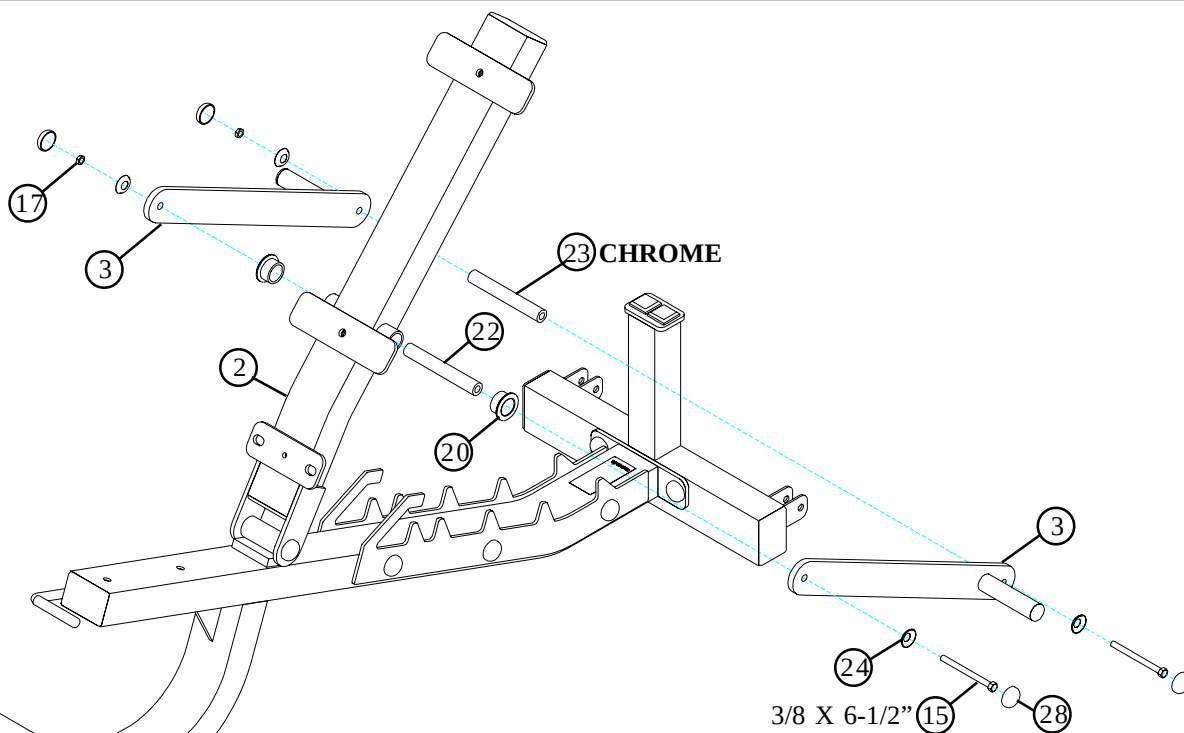

FIGURE 4
- **SECURELY** assemble two BACK PAD ADJUSTS (3) to the BACK PAD SUPPORT (2) using two RH CAPS (28), one 3/8 X 6-1/2" BOLT (15), one 3/4 X 5-5/16" PIVOT SHAFT (22), two 3/4" FLANGE BEARINGS (20), two 3/8" RH WASHERS (24) and one 3/8" LOW HEIGHT LOCK NUT (17) as shown in FIGURE 4.
- **SECURELY** assemble one 3/4" X 5-5/16" **CHROME** PIVOT SHAFT (23) between the two BACK PAD ADJUSTS (3) using two RH CAPS (28), one 3/8 X 6-1/2" BOLT (15), two 3/8" RH WASHERS (24) and one 3/8" LOW HEIGHT LOCK NUT (17) as shown in FIGURE 4.